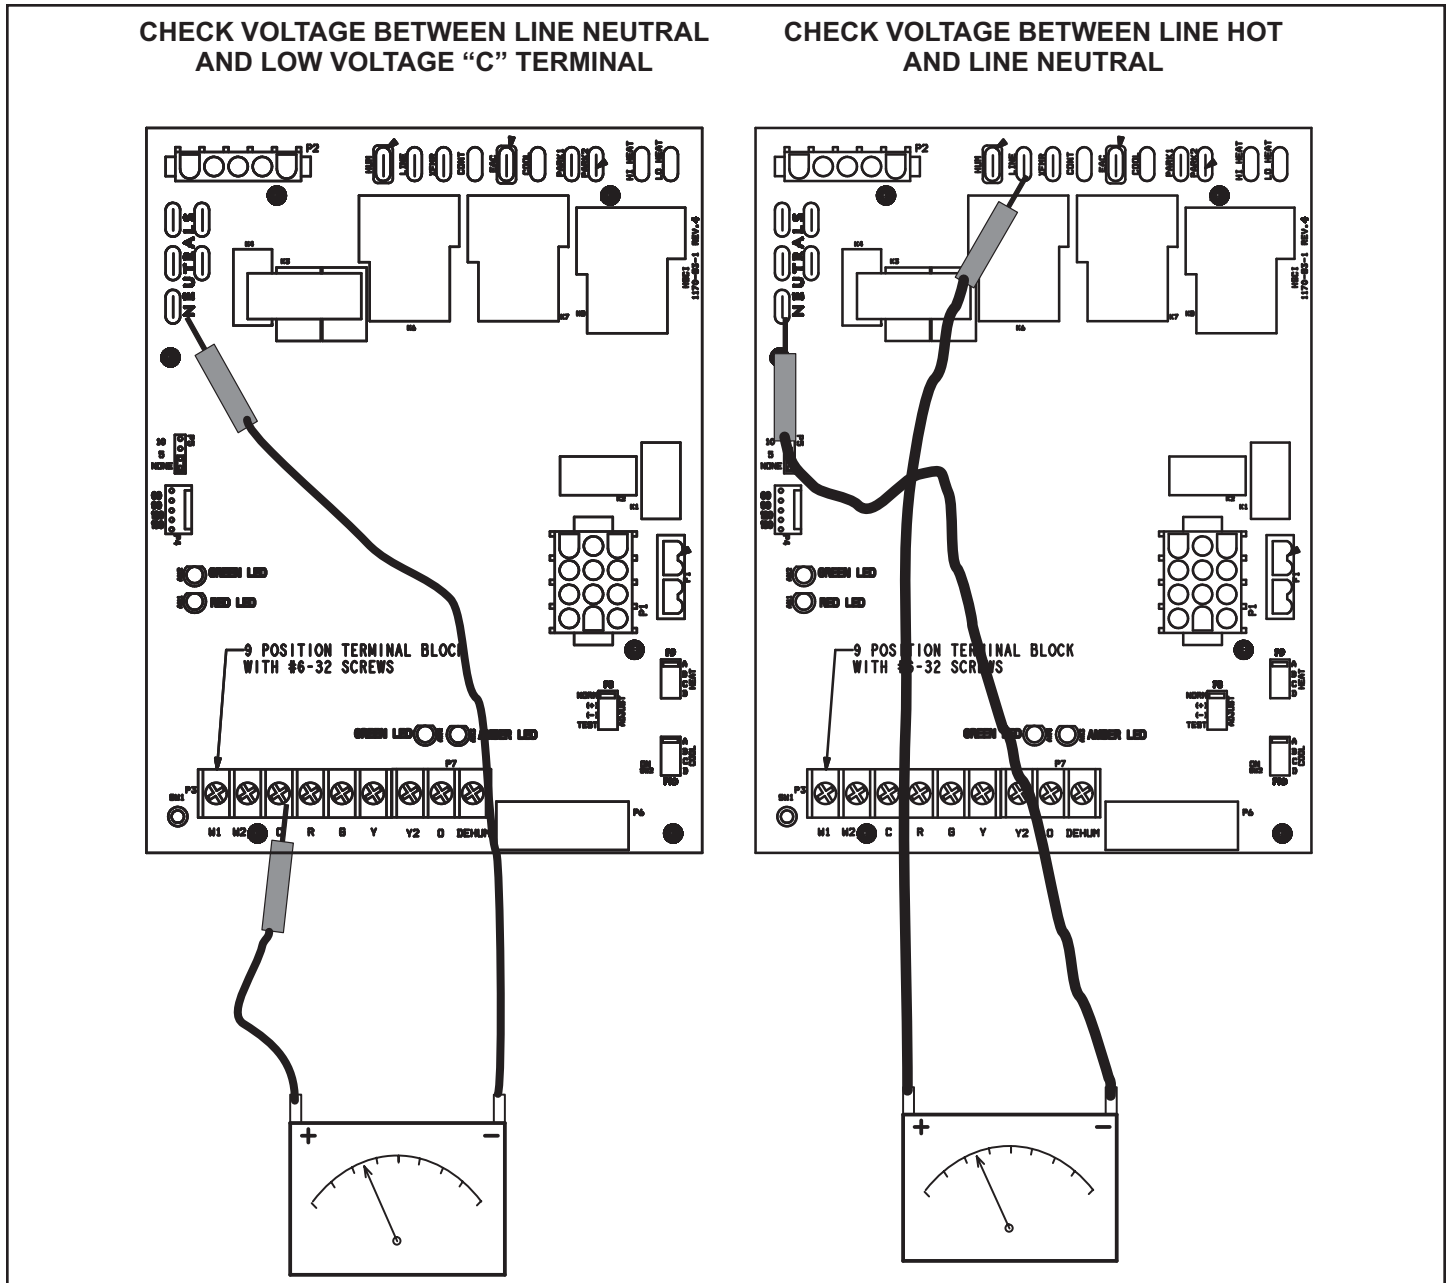

Figure 52.
1. Measure the AC voltage between Line Neutral (spade terminals) and "C" terminal (low voltage terminal block) on the integrated control. See Figure 52. A wide variation in the voltage between Line Neutral and "C" as a function of load indicates a poor or partial ground. Compare the readings to Table 17. If the readings exceed the maximum shown in Table 17, make repairs before operating the furnace.
2. In addition, measure the AC voltage from Line Hot to Line Neutral (spade terminals) on the integrated control. See Figure 52. This voltage should be in the range of 97 to 132 VAC